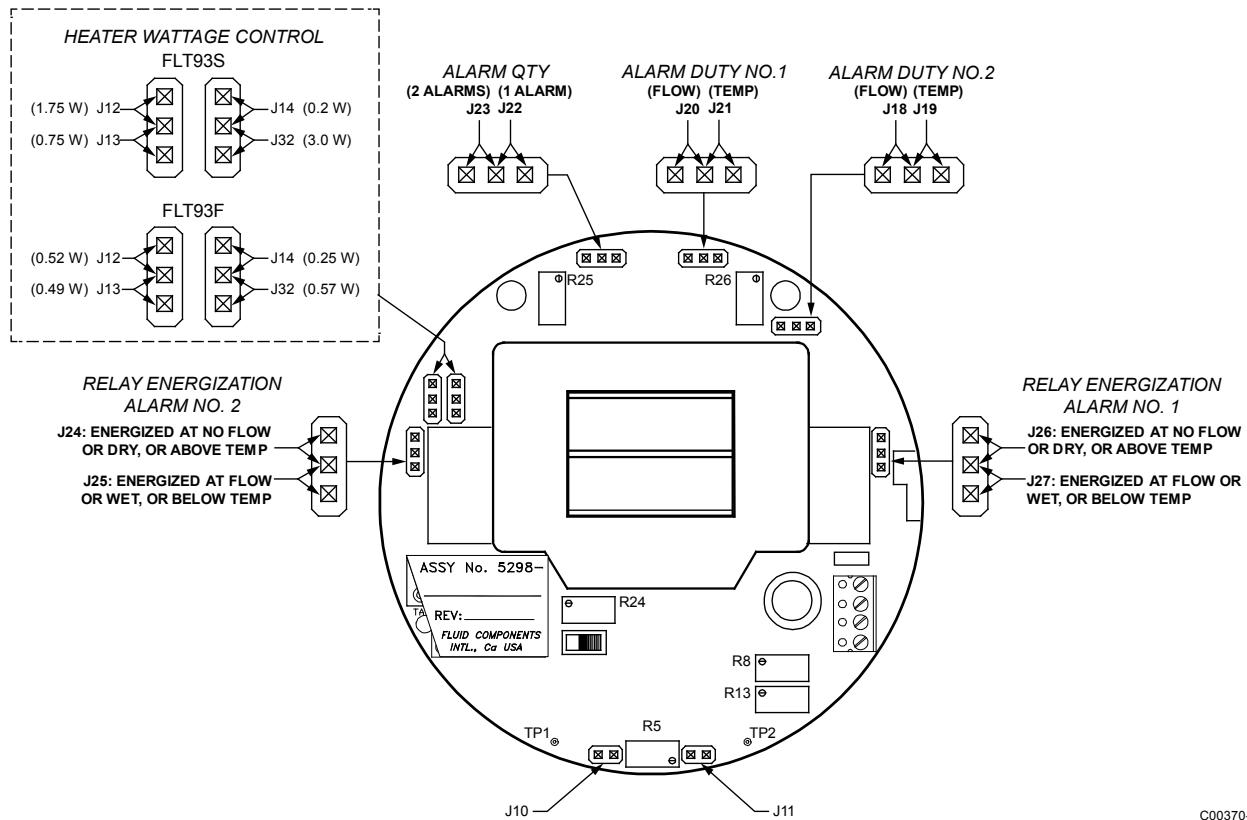

Figure 12 – 5298 Control Module Jumper Locations
The control module configuration jumpers are set by the 5298 control module callout which is specified on the top assembly for the particular customer order (CO). The information in the tables below and in Figure 12 on page 16 is for reference only. See APPENDIX A on page 41 for an example of a control module callout.